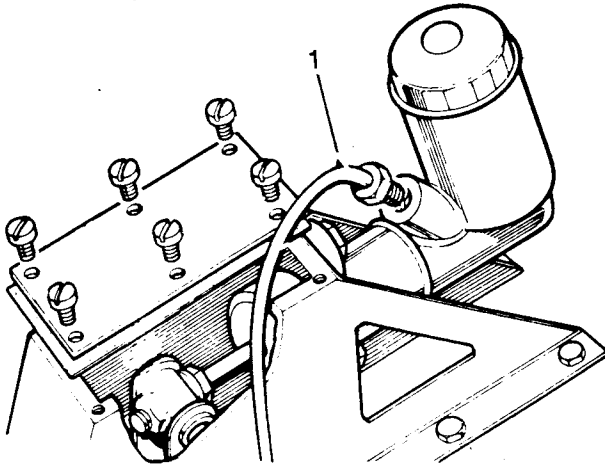

Fig H3.9
- (2) Refer to Fig H3.9. Disconnect the fluid pipe (1) from the clutch master cylinder.